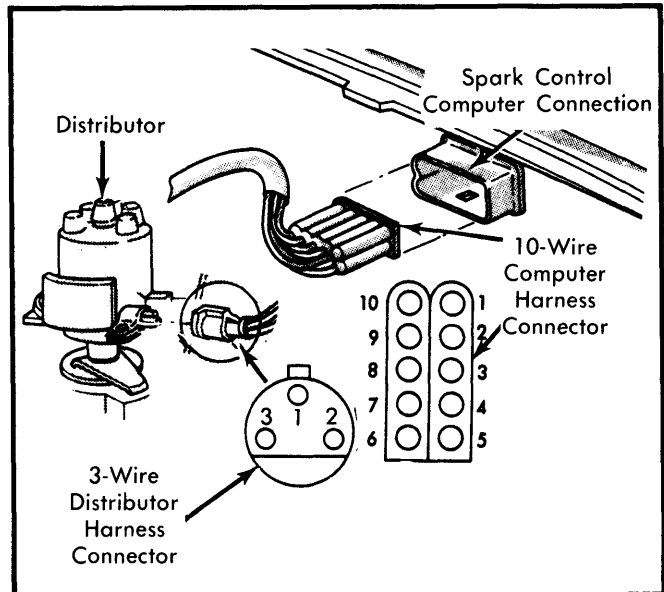

Fig. 4 Distributor and Computer Harness Connectors Used in Testing ESC System
- 3) If spark was obtained, proceed to step 6). If no spark resulted, turn ignition switch off and disconnect 10-wire harness connector from computer. See Fig. 4. Turn ignition switch back on and again, using special jumper, connect negative terminal momentarily to ground. Spark should be obtained.